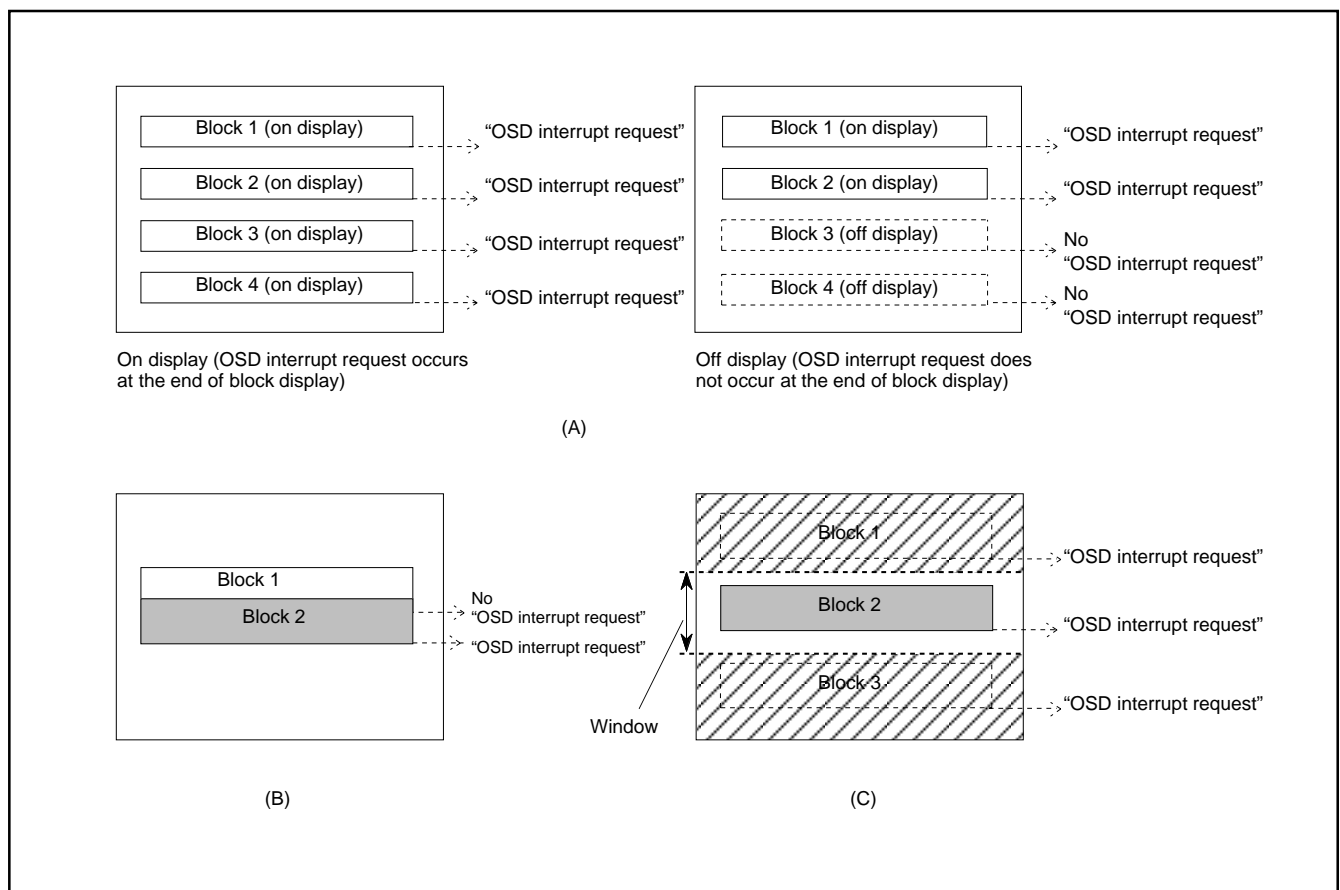

Fig. 8.11.36 Note on Occurrence of OSD Interrupt
Notes 1: An OSD interrupt does not occur at the end of display when the block is not displayed. In other words, if a block is set to off display by the display control bit of the block control register i (addresses 00D0₁₆ to 00DF₁₆), an OSD interrupt request does not occur (refer to Figure 8.11.36 (A)).
2: When another block display appears while one block is displayed, an OSD interrupt request occurs only once at the end of the another block display (refer to Figure 8.11.36 (B)).
3: On the screen setting window, an OSD interrupt occurs even at the end of the CC mode block (off display) out of window (refer to Figure 8.11.36 (C)).